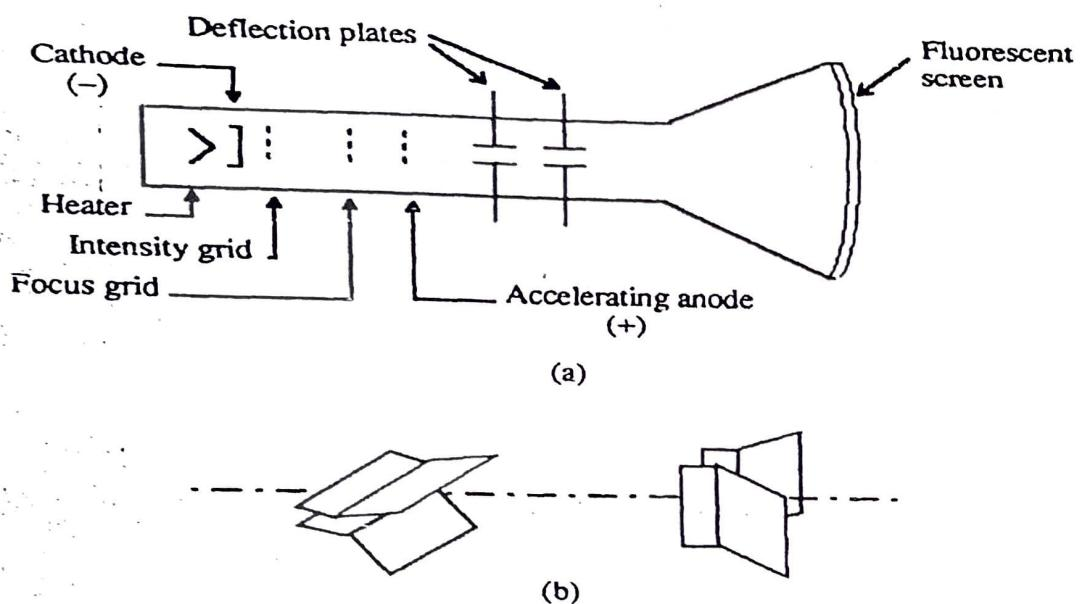

Figure 1. Cathode-ray tube: (a) schematic, (b) detail of the deflection plates.
**1. Cathode-Ray Oscilloscope:** The cathode-ray oscilloscope (CRO) is a common laboratory instrument that provides accurate time and amplitude measurements of voltage signals over a wide range of frequencies. Its reliability, stability, and ease of operation make it suitable as a general purpose laboratory instrument. The heart of the CRO is a cathode-ray tube shown schematically in Fig. 1.